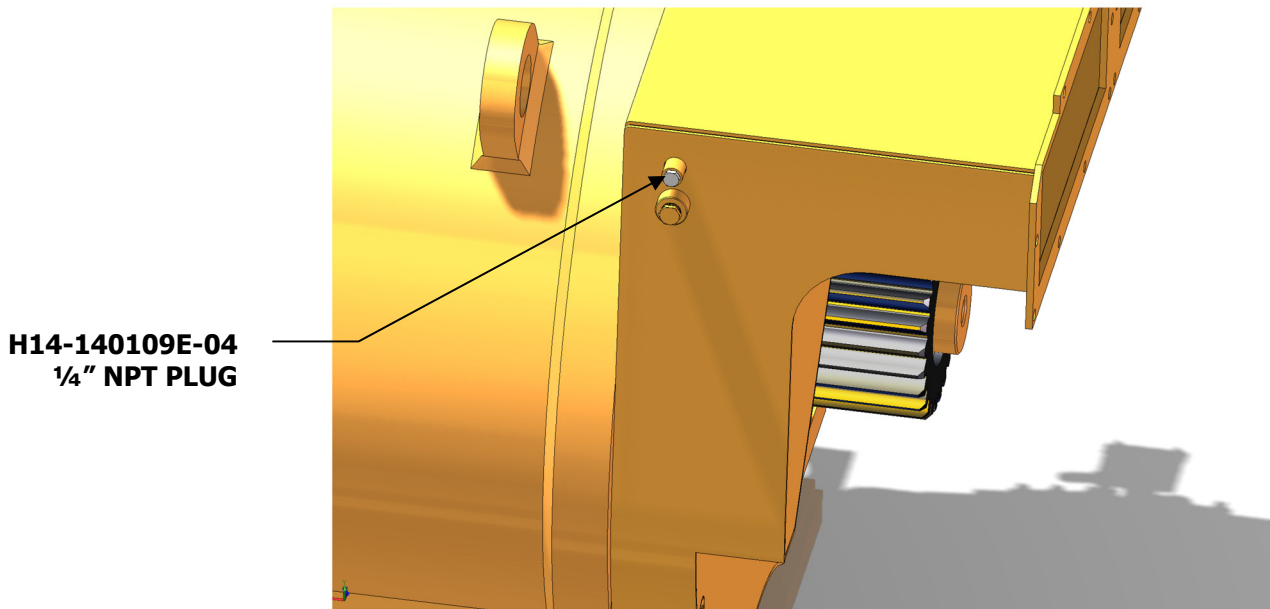

Figure 3
10. Install $\frac{1}{4}$ " plug (H15-140109E-04) on the external side of $\frac{1}{4}$ " NPT coupling as shown in Figure 3.